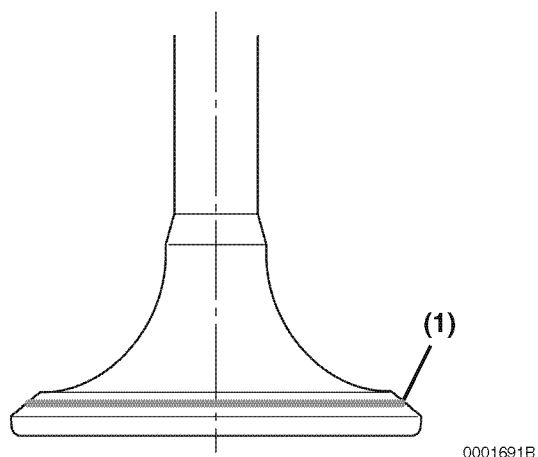

Figure 6-60
Coat the valve seat with a thin coat of bluing compound. Install the valve and rotate to distribute bluing onto the valve face. The contact pattern should be approximately centered on the valve face (**Figure 6-60, (1)**) and even in width.